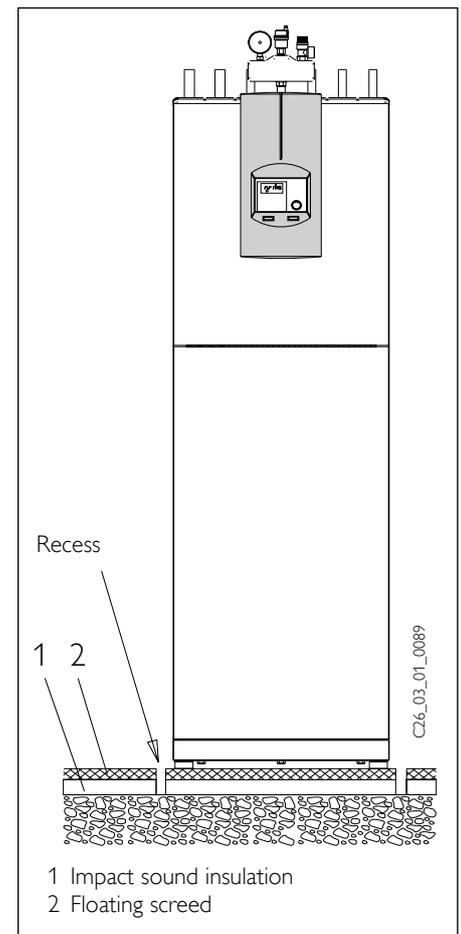

Fig. 10
- For a quiet operation on floating screeds, remove the screed and the anti-vibration insulation around the installation location of the heat pump (Fig. 10).